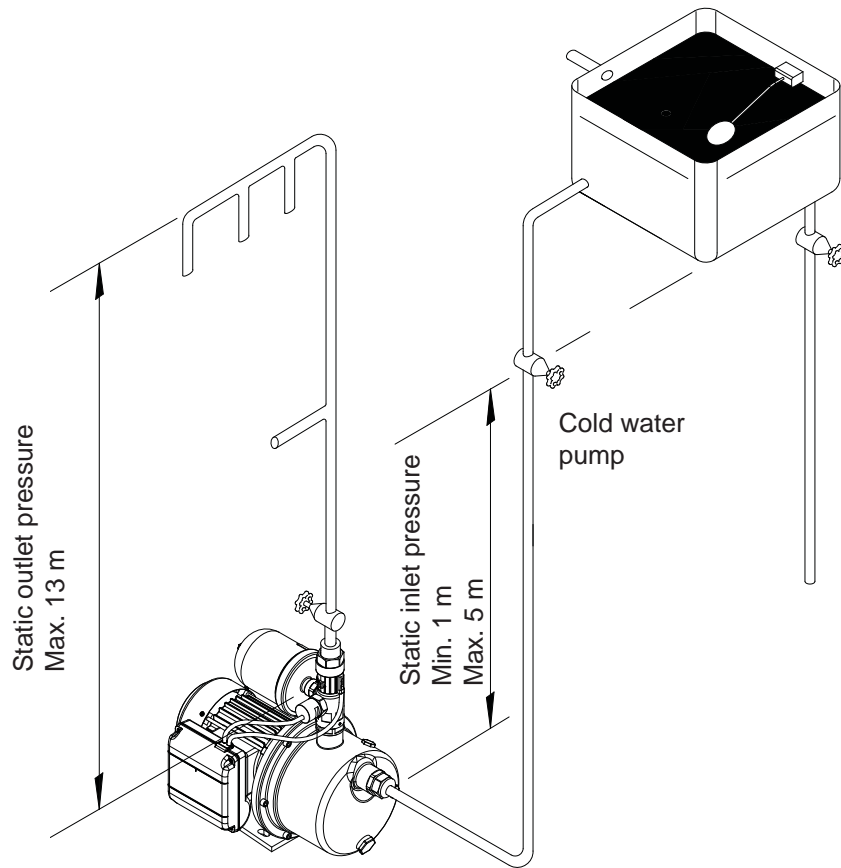

Fig. 4
- 2.16 **Static inlet pressure:** Before deciding where to locate the unit check to ensure the static inlet head between pump and cold water level (Fig. 4) is at least 1 metre and does not exceed the max inlet head of 5 metres.
- 2.20 **Static outlet pressure:** The static outlet head (Fig. 4) must also be within the maximum requirement of 13 metres.